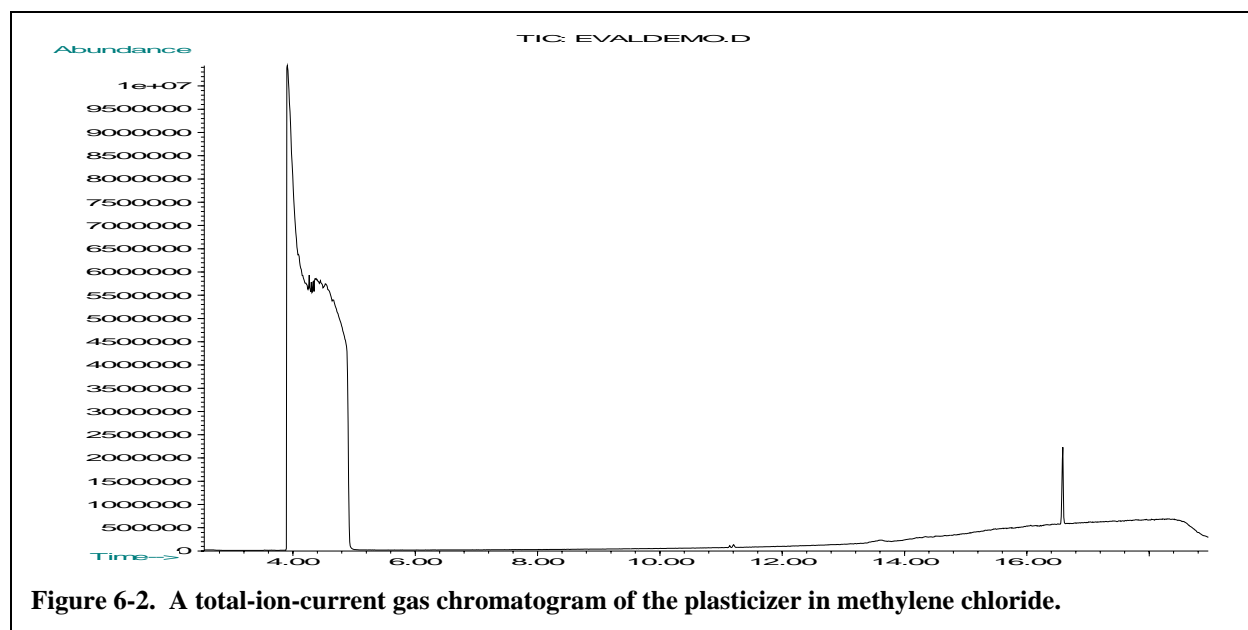

Figure 6-2. A total-ion-current gas chromatogram of the plasticizer in methylene chloride.
1. Speculate about the reason for any differences in relative abundances (i.e. peak intensities) of methylene chloride and plasticizer in your chromatogram compared to the chromatogram shown in Figure 6-2.